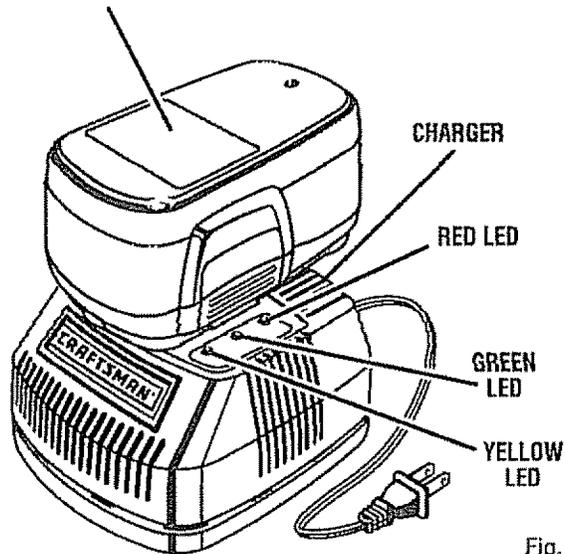

Fig. 2
- Place the battery pack in the charger aligning raised rib on the battery pack with the groove in the charger. See Figure 2.